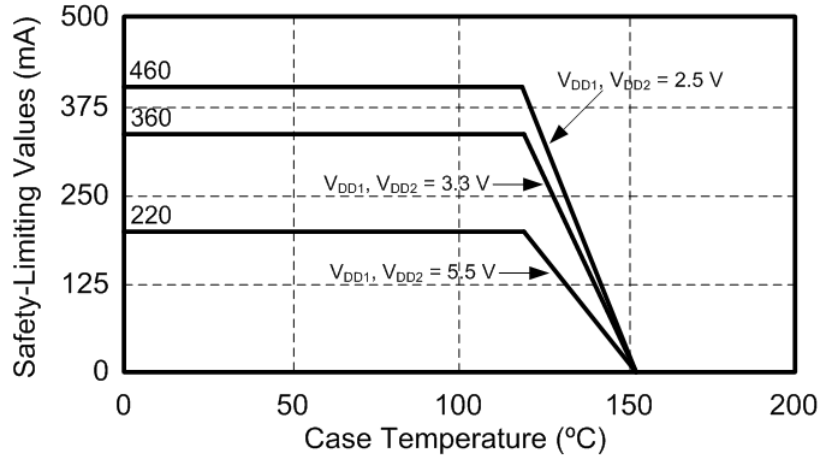
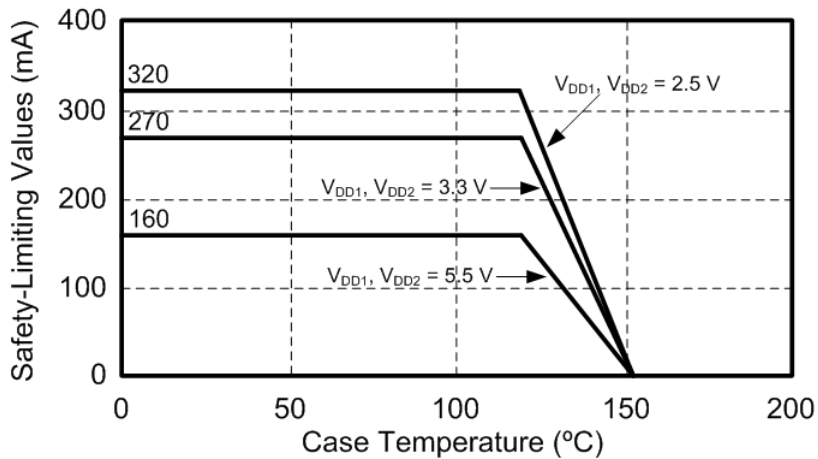

Figure 4.3. (WB SOIC-16) Thermal Derating Curve, Dependence of Safety Limiting Values with Case Temperature per DIN EN 60747-5-5/VDE 0884-10, as Applies
Figure 4.4. (NB SOIC-8) Thermal Derating Curve, Dependence of Safety Limiting Values with Case Temperature per DIN EN 60747-5-5/VDE 0884-10, as Applies
1. Maximum value allowed in the event of a failure; also see the thermal derating curve in [Figure 4.3 \(WB SOIC-16\) Thermal Derating Curve, Dependence of Safety Limiting Values with Case Temperature per DIN EN 60747-5-5/VDE 0884-10, as Applies on page 23](#) and [Figure 4.4 \(NB SOIC-8\) Thermal Derating Curve, Dependence of Safety Limiting Values with Case Temperature per DIN EN 60747-5-5/VDE 0884-10, as Applies on page 23](#).